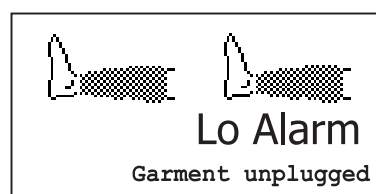

Figure 17 - LCD Display - Lo Alarm - Fault Message
- 3.6.1 Disconnect a garment from its hose set assembly while the pump is running, and check that within one complete inflation cycle (which will be between 30 and 72 seconds depending on the garment types connected to the pump), the pump will detect the fault and flash **Lo Alarm - Garment unplugged** on the LCD display (Refer to Figure 17).
- 3.6.4.3 The message **Lo Alarm - Garment unplugged** is shown on the LCD display (Refer to Figure 17).